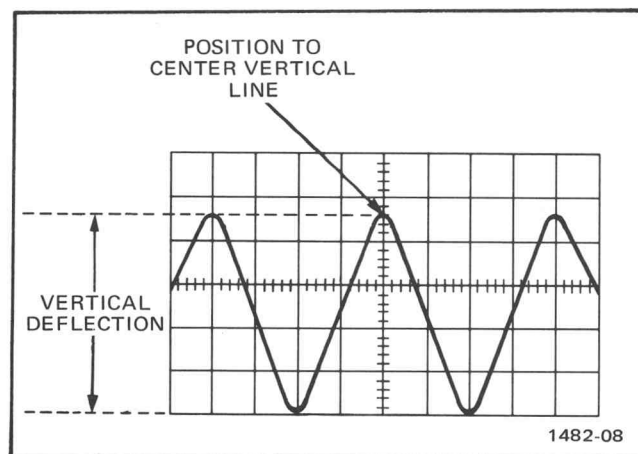

Fig. 5. Measuring peak-to-peak voltage.
3. Measure the peak-to-peak amplitude of the display or waveform, in graticule divisions (see Fig. 5).
Since a complete cycle of a sinusoidal waveform represents 360°, the oscilloscope graticule can be calibrated in degrees/division by using the SEC/DIV switch and the VAR HORIZ MAG. Adjust the span of a reference waveform so that one cycle covers a given number of divisions. (Figure 5 illustrates how the graticule can be calibrated for 45° per division.) The phase difference of a signal from the reference equals the displacement from the calibrated points on the graticule.